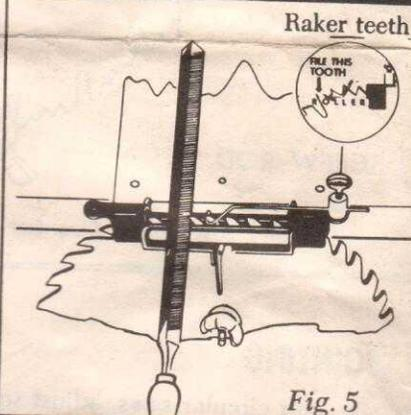

Fig. 5
Place File Head on Guide Fin "B" as in Fig. 3. Angle and bevel of saw tooth should match file position. If they do not match, reverse saw blade. Place file between teeth to be filed. Note that there is a slight side play when File Head is on Guide Fin "B." Index by holding File handle so that File is in exact line with Guide Fin "B." Adjust Screw Rod "A" so that File is just a few thousandths of an inch above roller when on tooth. Lock blade with Wedge "C." Check again to see that File is in line with Guide Fin "B." File tooth until File touches roller. Point of tooth should be sharp; if not, re-adjust Screw Rod "A." Lock with Lock Nut. This adjustment must NOT be changed until after saw is filed on both sides. Alternate teeth are filed, following same procedure. Then move Guide Fin "B," reverse saw blade. Repeat filing operation. For filing Raker teeth see instructions on Rip Saws (Fig. 5).
2. If saw blade has been filed before, either free-hand or on equipment other than the No. 11 Super Saw Filer, the teeth are probably not evenly spaced, angle and bevel may be wrong, and blade needs jointing. These saw blades must first be jointed as illustrated in Fig. 2. File Head is then placed on Guide Fin "B" as pictured in Fig. 3. This will give correct angle and bevel but not proper indexing. Therefore it is necessary to hold saw blade with thumb and fingers of left hand while filing with right hand. File just enough to remove flat spot on point of tooth left by jointing operation. Alternate teeth are filed. Then move Guide Fin "B" and reverse saw blade. Repeat filing. When finished, teeth will be sharp, with correct angle and bevel, although possibly spacing will not be even. Filing to jointing mark will keep blade round. Adjust Screw Rod "A" so that File barely clears depth control rollers. For filing Raker teeth see instructions on Rip Saws (Fig. 5).